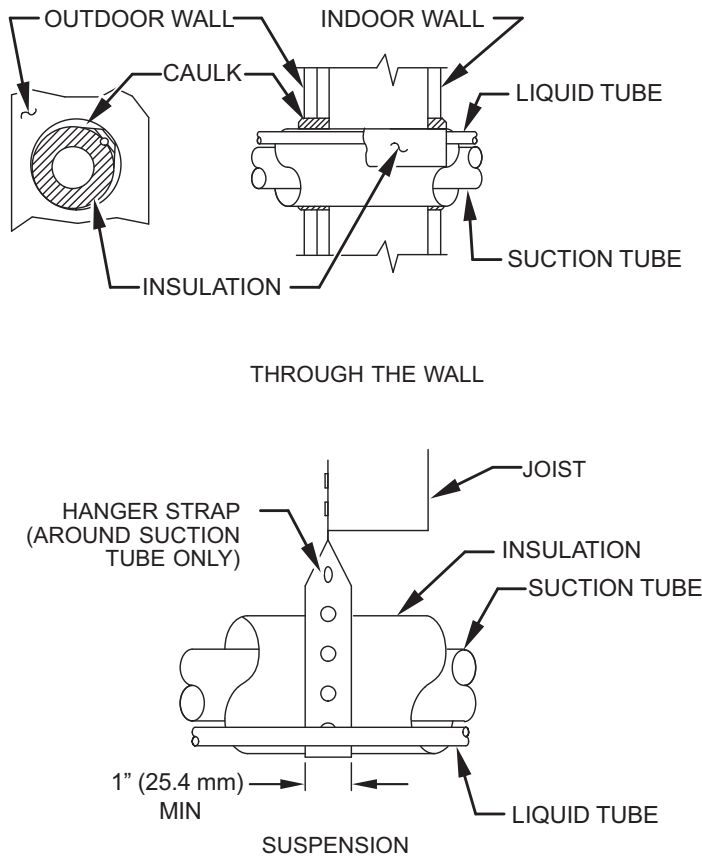

Fig. 1 – Connecting Tubing Installation A07588
6. When passing refrigerant tubes through the wall, seal opening with RTV or other pliable silicon-based caulk (see Fig. 1).
8. Do not suspend refrigerant tubing from joists and studs with a rigid wire or strap which comes in direct contact with tubing (see Fig. 1).
10. When necessary, use hanger straps which are 1 in. wide and conform to shape of tubing insulation. (See Fig. 1.)